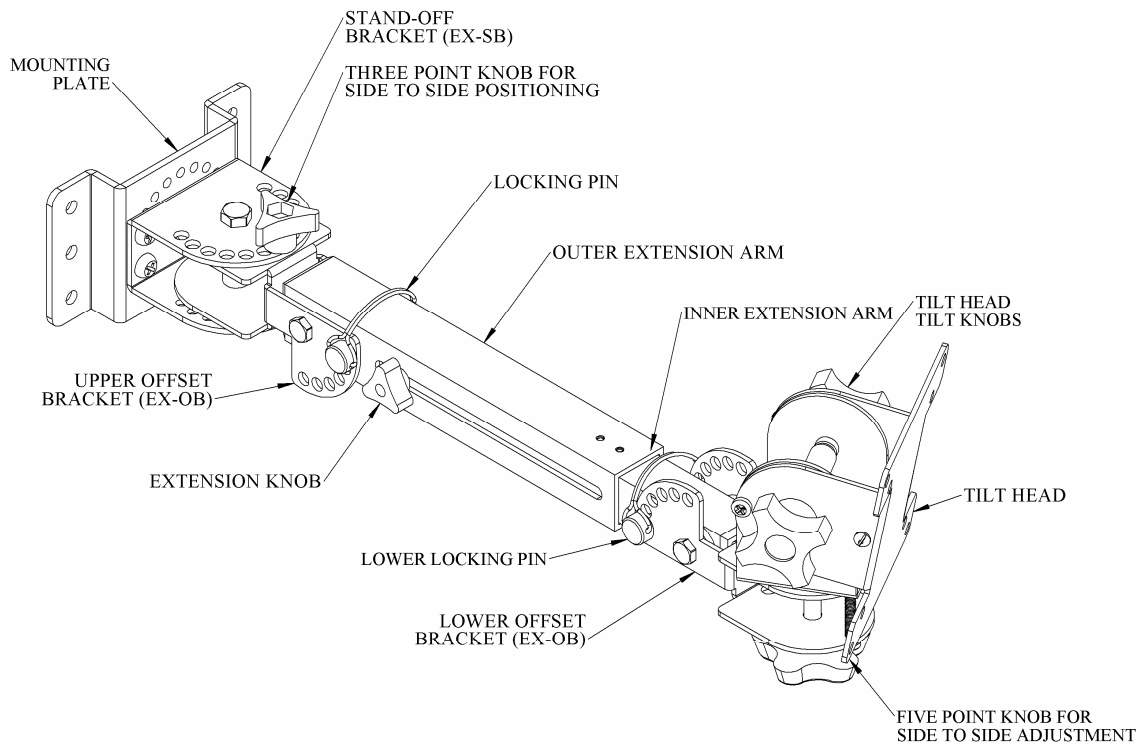

Figure 2 – EX Arm Mount with VESA pan and tilt head
2. Slightly loosen the small three pointed knob on the side of the middle of the arm until the inner and outer arms will slide over each other (See Figure 2). To retract the arm, lift the screen and guide it smoothly upwards to the desired position, then tighten the locking knob securely.
6.1 Adjusting the positions of the *Offset Brackets (OB)*
1. The offset angles of the *OB* brackets must be set equally so that the upper and lower *OB* brackets are kept in parallel to each other (See Figure 2). For example: if you adjust the upper bracket two holes down, you must adjust the lower bracket two holes up.
1. Place the entire assembly on a flat surface. Remove the five point knob from the lower *OB* bracket. Remove the anti-slip washer and the entire pan and tilt head unit (See Figure 2).
1. Place the entire assembly on a flat surface, remove the five point knob from the lower *OB* bracket, remove the anti slip washer and the entire pan and tilt head together as a unit (See Figure 2).
7. Remove the locking pins from the *OB* brackets on both the upper and lower arm sections (See Figure 2).